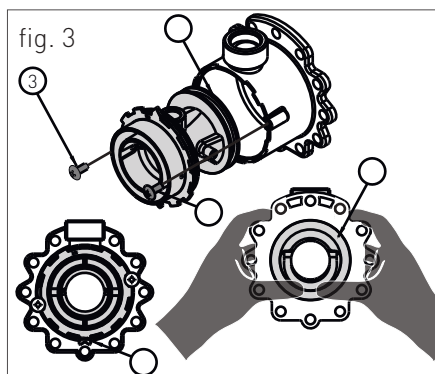

fig. 3
- › remove the two screws '3' (fig.3) and apply pressure on the rear side of venturi 'C' (fig.3);
- › replace the body venturi with the one suitable for the type of supply gas (for 24 kW cod. 30-00231 for Natural gas / cod. 30-00170 for Universal LPG) (for 28 kW cod. 30-00232 per metano / cod. 30-00169 per GPL) (for 34 kW cod. 30-00207 per metano / cod. 30-00201 per GPL) and make sure the tooth 'D' (fig.3) is adjusted downwards on the aluminium ring nut (see fig.3);